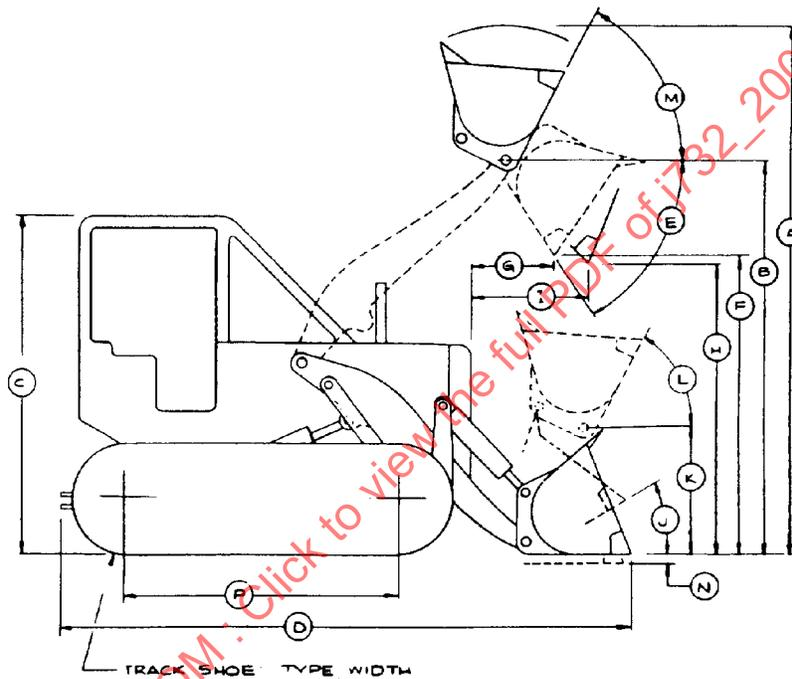

FIGURE 1—LOADER—CRAWLER
**1. Scope**—This SAE Standard provides uniform definitions of specification terms peculiar to loaders as defined in SAE J1057. The specifications must be qualified by stating the track shoe type, width or the tire type, size, ply, and specified inflation pressure; the model number or type of bucket disregarding teeth; and the type and amount of counterweight and/or ballast, if any, with which the machine is equipped. Paragraphs 4.1 to 4.16 are further defined by Figures 1 to 4. The figures are not intended to be exactly descriptive of any particular machine.